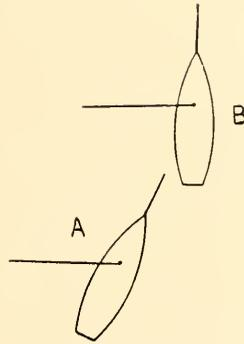

FIG. 69.
Question: (5) Further—If the boats are running dead before the wind (Fig. 69), would that make any difference in the decision?